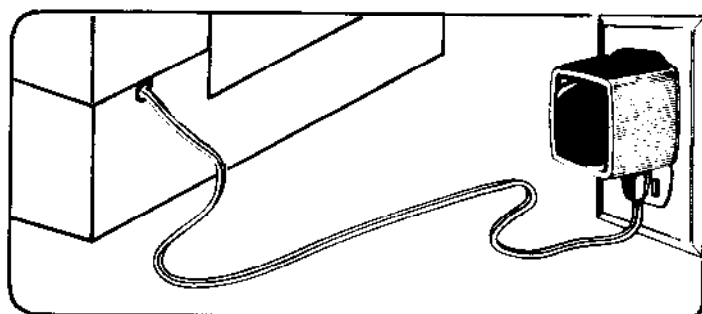

Figure 2.
2. Plug the Printer Transformer into any convenient AC wall outlet (Figure 2).